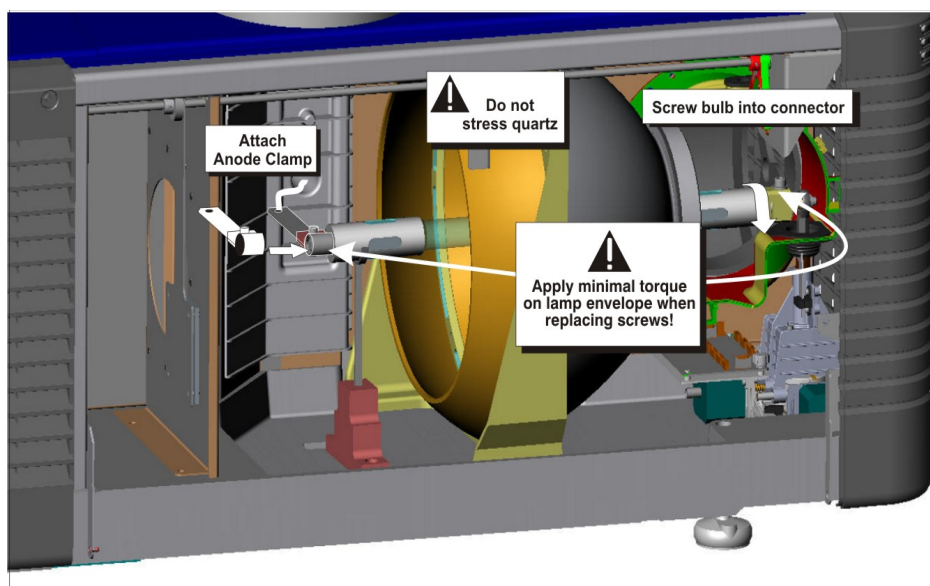

Figure 4-2 Install New Lamp
- b. Insert the threaded cathode (-) end of the lamp into the negative lamp connector nut located in the rear of the lamp compartment. (Figure 4-2) Using both hands, hand-tighten this end into the threaded nut. **Caution! 1)** Handle the lamp by the cathode/anode end shafts only, never the glass. **DO NOT over-tighten. DO NOT stress the glass in any way. 2)** Check leads. Make sure the anode (+) lead between the lamp and igniter is well away from any projector metal such as the reflector or firewall.
- c. Rest the anode (+) end of the lamp on the anode yoke and slip the positive lamp connector over the bulb end. (Figure 4-2) Using the 5mm Allen key, squeeze together with the anode clamp making sure not to place any torque on the lamp quartz tube. **Important!** Ensure that the “flat” part of the anode end of the lamp facing up. **Warning!** Explosion hazard - Do not apply torque to the anode end of the lamp.